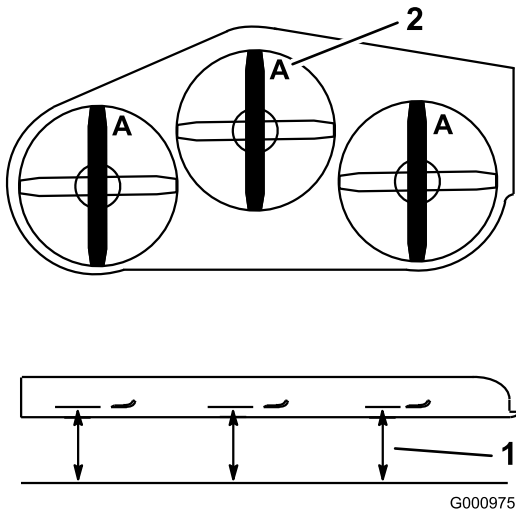

Figure 82
3. Rotate the blades until the ends face forward and backward (Figure 82).
4. Measure from a level surface to the cutting edge, position A, of the blades (Figure 82).